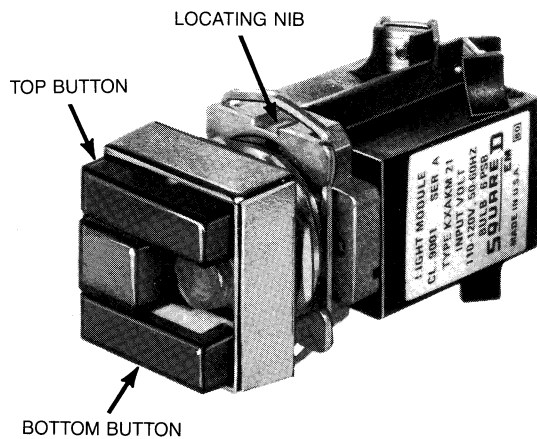

FIGURE 7
- m. Place the lens on the left side of the operator as shown in Figure 7 below and push together until securely held by the operator.